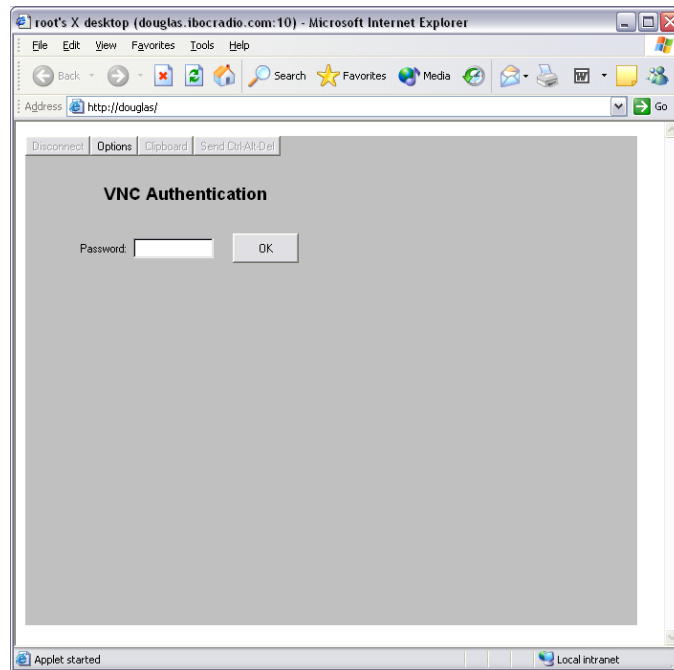

Figure 5-15 VNC Authentication Screen
After a network connection is established, type the IP address or machine name in the Address field of a web browser. The VNC Authentication screen will then be displayed, Figure 5-15 VNC Authentication Screen.
Type *password* for the password and select OK. The ASi 10 Main Menu is displayed in the web-browser as shown in Figure 5-15 VNC Authentication Screen. The ASi 10 can now be controlled from the remote location, just as if you were at the console, without limitation.
5. Once the connection is established, use a web browser as described in Paragraph 5.6, and type `http://10.0.0.1` in the address field. The VNC Authentication screen should now displayed (*Figure 5-15 VNC Authentication Screen*).